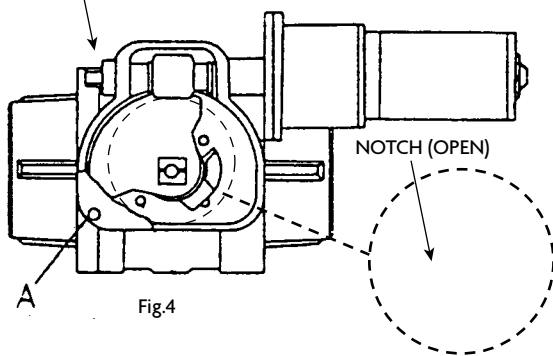
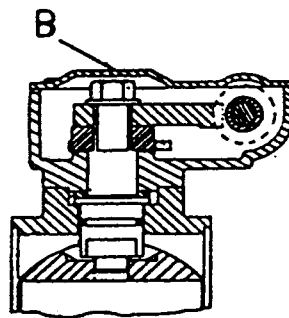

Fig.4
Fig.5
- A. Using a  $\frac{3}{32}$ " Allen wrench, remove the four round head screws A, Fig. 4, and remove the cover B, Fig. 5. \* Recommend Actuator be installed so  $\frac{7}{16}$ " wrench connection is directed to an accessible location.